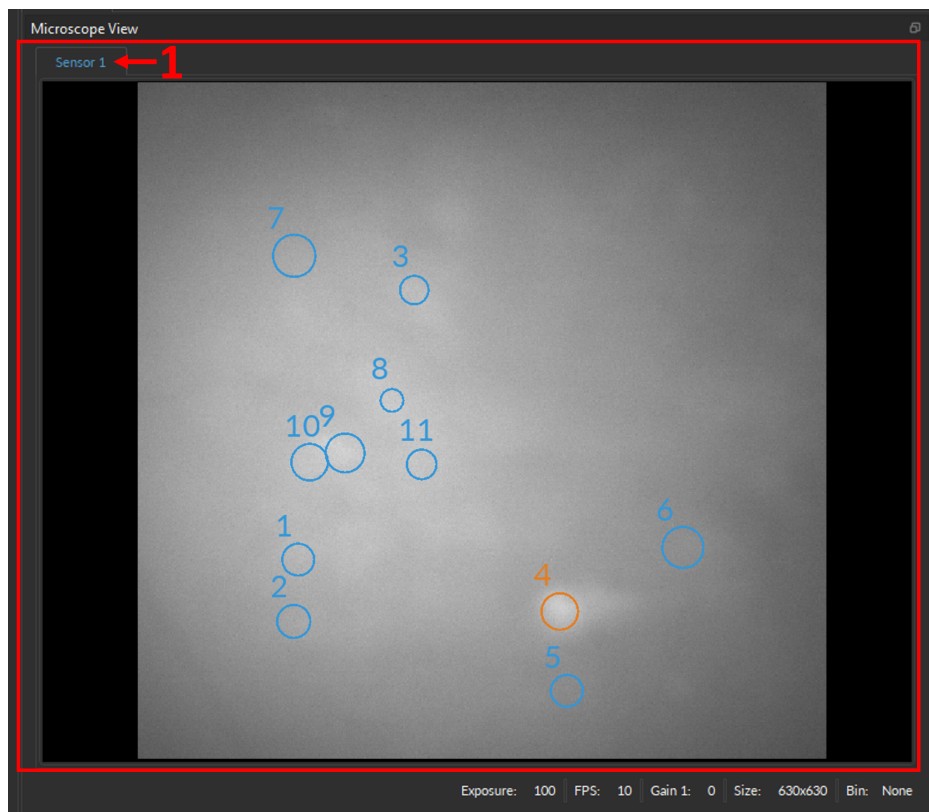

Figure 7.36: Microscope View
1. The **Sensor(s)** tab (Fig. 7.36, 1) displays each sensor's live video feed, where the ROI(s) can be drawn, edited, or deleted. For multi-sensor microscopes, changing the tab allows you to see the image available to each sensor,